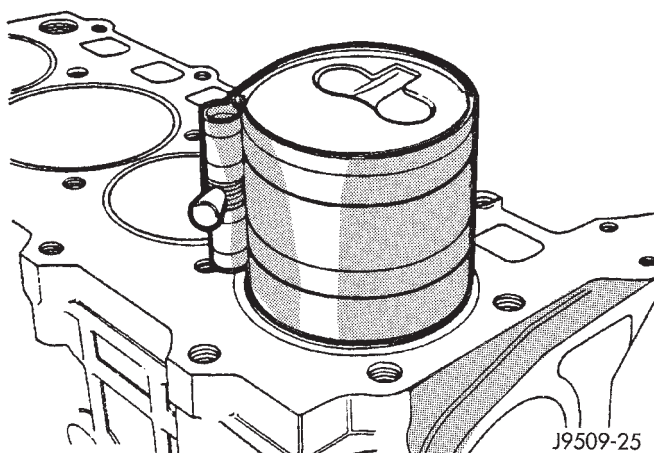

Fig. 48 Installing Piston
(3) Immerse the piston head and rings in clean engine oil, slide the ring compressor, over the piston and tighten with the special wrench (Fig. 48). **Ensure position of rings does not change during this operation.**
(4) Face chamber recess side of piston towards camshaft.
(5) Install connecting rod bolt protectors on rod bolts.
(6) Rotate crankshaft so that the connecting rod journal is on the center of the cylinder bore. Insert rod and piston into cylinder bore and guide rod over the crankshaft journal.
(7) Tap the piston down in cylinder bore, using a hammer handle. At the same time, guide connecting rod into position on connecting rod journal.
(8) Install rod caps. Install nuts on cleaned and oiled rod bolts and tighten nuts to 29.5 N-m (22 ft. lb.) plus 60°.